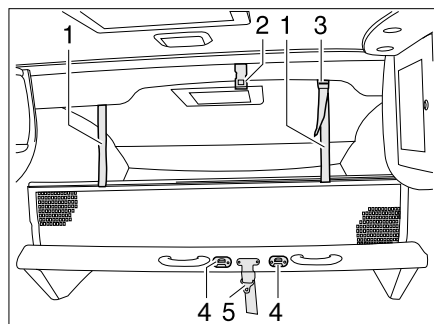

Fig. 157 Manual pull-down bed
- Secure the pull-down bed to the roof (Fig. 157,2) by means of the retaining belt (Fig. 157,5).
Attaching: ■ Hook the access ladder to the pull-down bed by attaching both brackets into the U-bolts (Fig. 157,4).
Setting up: ■ Fasten the retaining straps (Fig. 157,1) to the holders on the ceiling (Fig. 157,2).